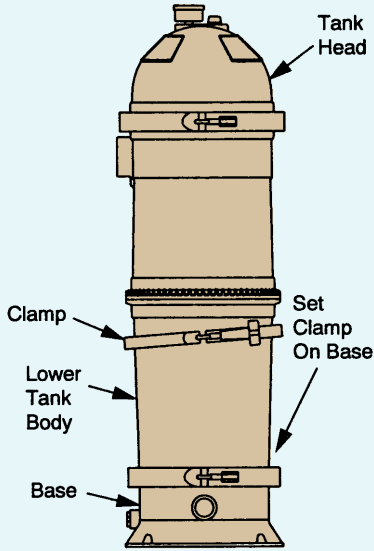

FIGURE 6A – PTM135
6. Remove clamp fastener from clamp indicated in Figures 6A and 6B.
7. Loosen indicated clamp (see Figure 6); remove clamp by lifting it straight up over tank or dropping it onto filter base. (see Figures 6A, 6B, and 7, Page 8).